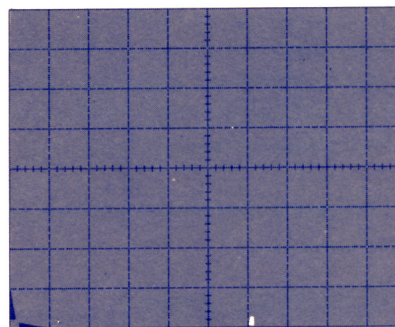

Figure 2-1. Display of gate-source breakdown voltage $V_{(BR)GSS}$.
- 4) Compare to specifications — Check to see that specified voltage is reached before stated current is exceeded. See Figure 2-1. See note 2.